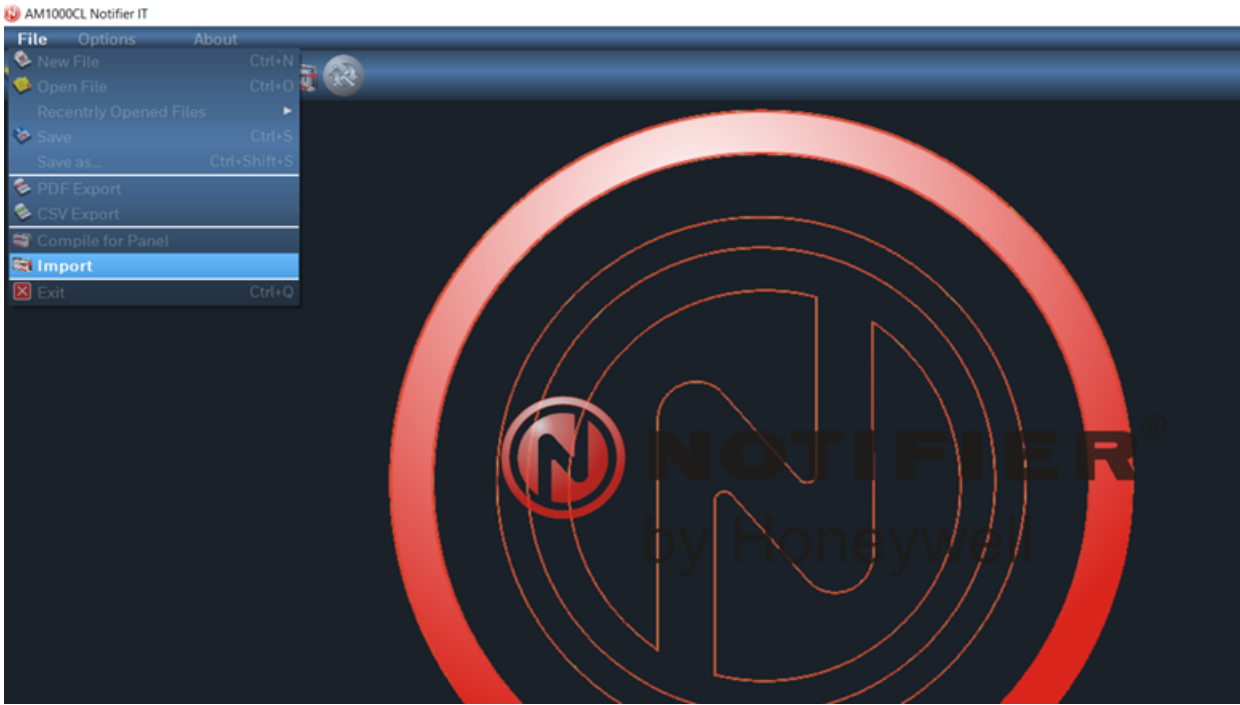
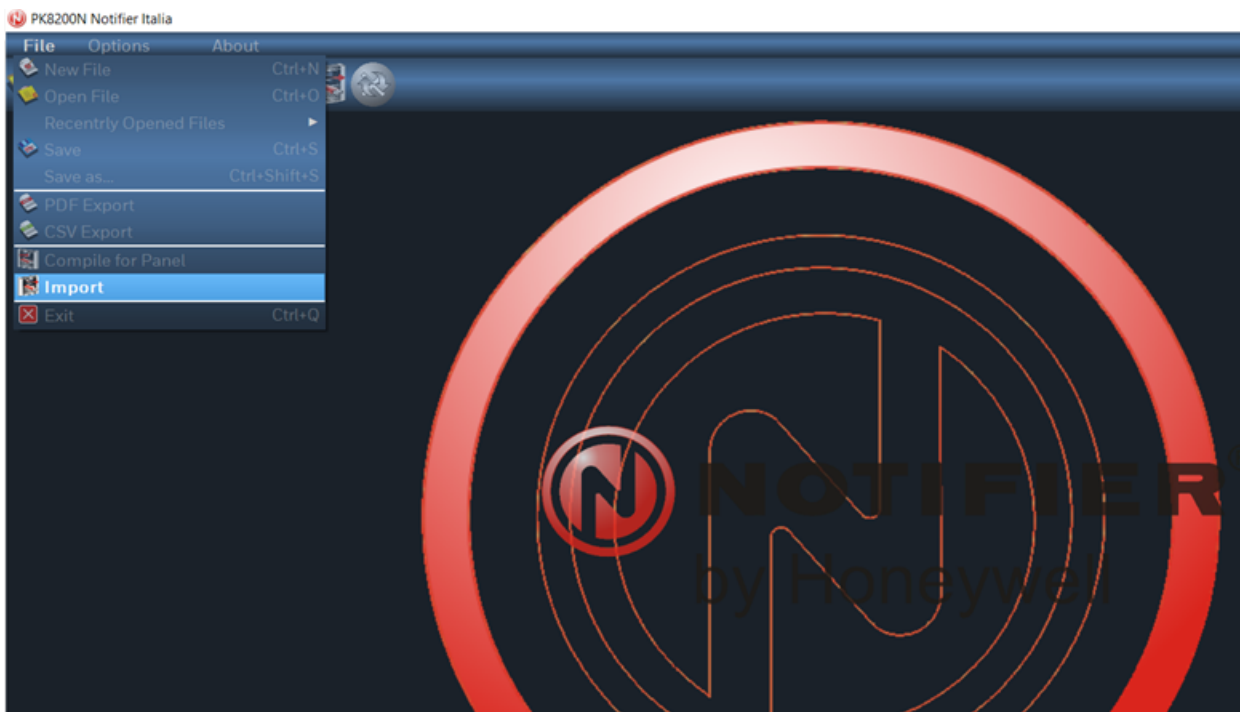

Figure C-72: AM CL Series Tool
Figure C-73: AM8200N/AM8100 Series Tool
- Open AM 1000CL Notifier IT tool as shown in Figure C-72: AM CL Series Tool and import the .BIN configuration file into this tool as shown in Figure C-73: AM8200N/AM8100 Series Tool for converting the file into XML format which can be uploaded to CLSS.